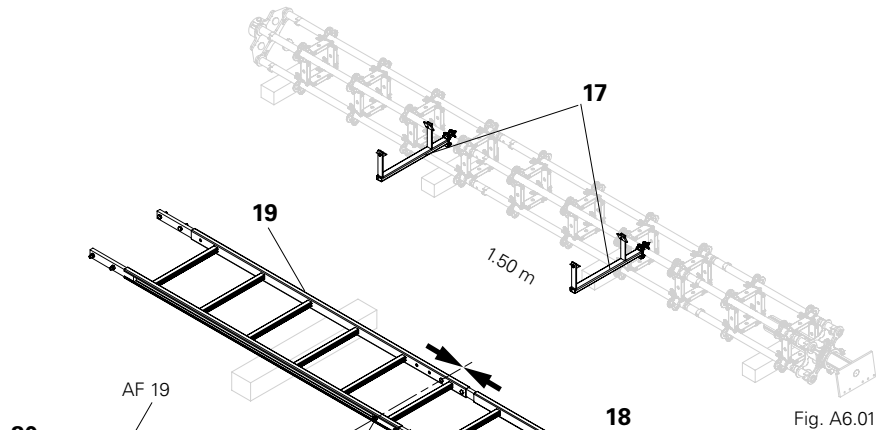

Fig. A6.01
1. Screw the Ladder Connectors HD 200 (17) to the standards. (Fig. A6.01)